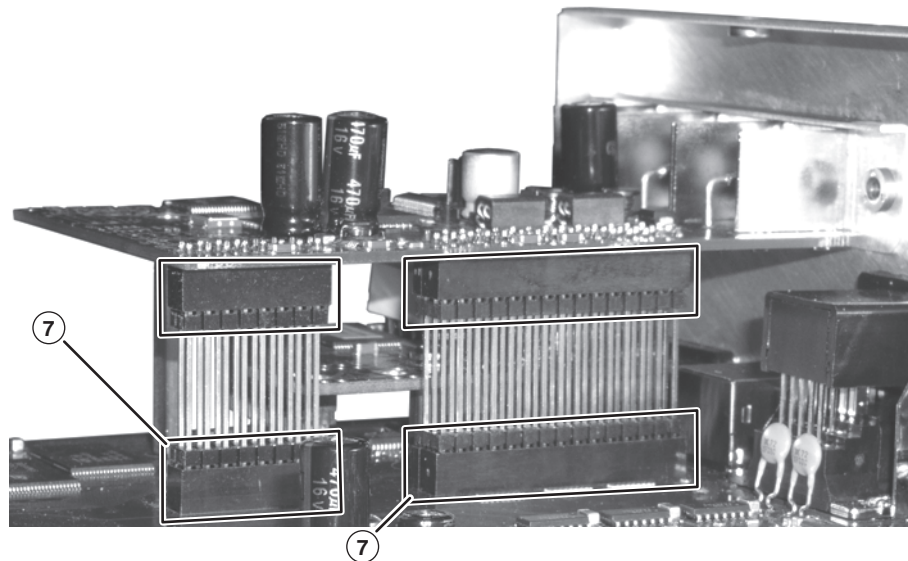

Figure 10 — Output board installation
6. See figure 10. Continue to apply pressure until the connector extension(s) are fully mated with the main board (⑦). Mated connectors are straight on the top and bottom of the connector extension.